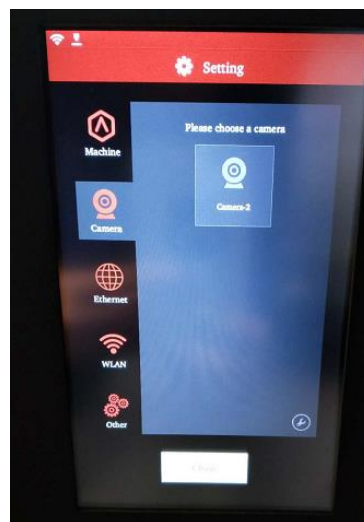

Figure 3.37: Choose a camera on touch screen.
Step 1: Choose a camera on the printer **Figure 3.37.**